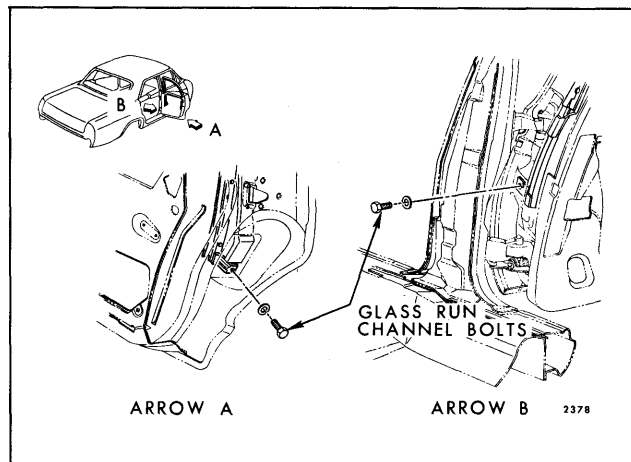

Fig. 6-92—Glass Run Channel Retention - "B"
4. Remove glass run channel front and rear attaching bolts (Fig. 6-92).